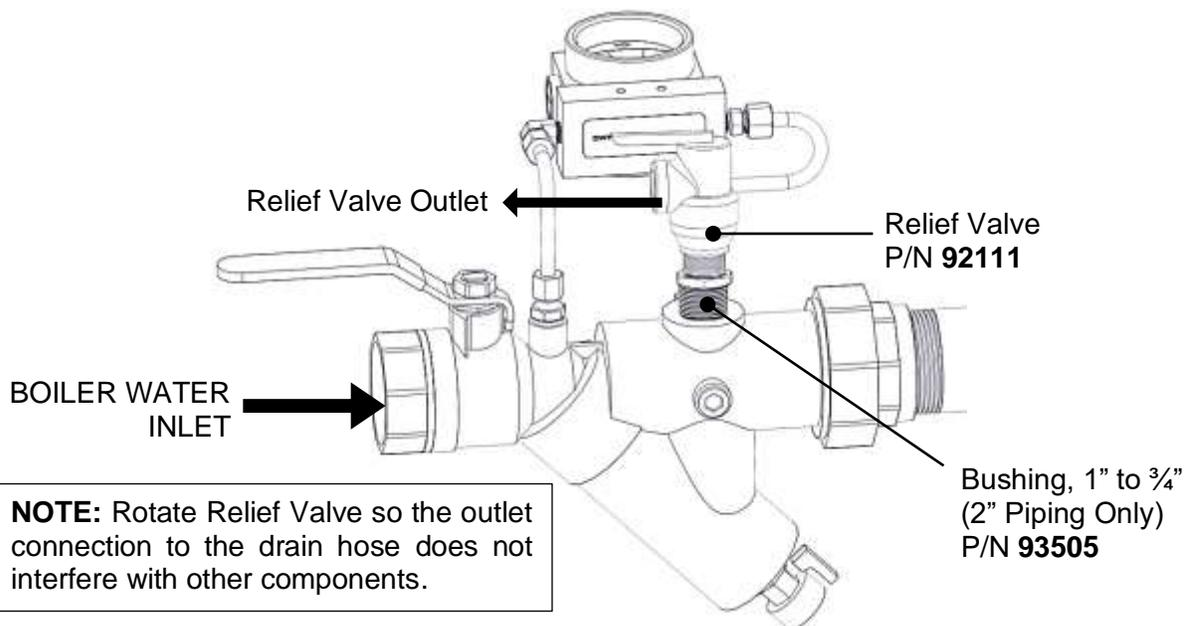

Figure 2-11. Relief Valve Installation – New York City Option
- If the unit is being installed in New York City only (kits **58128-3 – 58128-6**), in addition to the steps above you must install a second Relief Valve (P/N **92111**) in the Boiler Water Intake Ball Valve/Strain combo, as shown in Figure 2-11. If the unit has 2 inch piping (models SP-42, SP-61 or SP-113), you must include the 1" to 3/4" bushing (P/N **93505**). Units with 1 1/2" piping do not need this bushing.